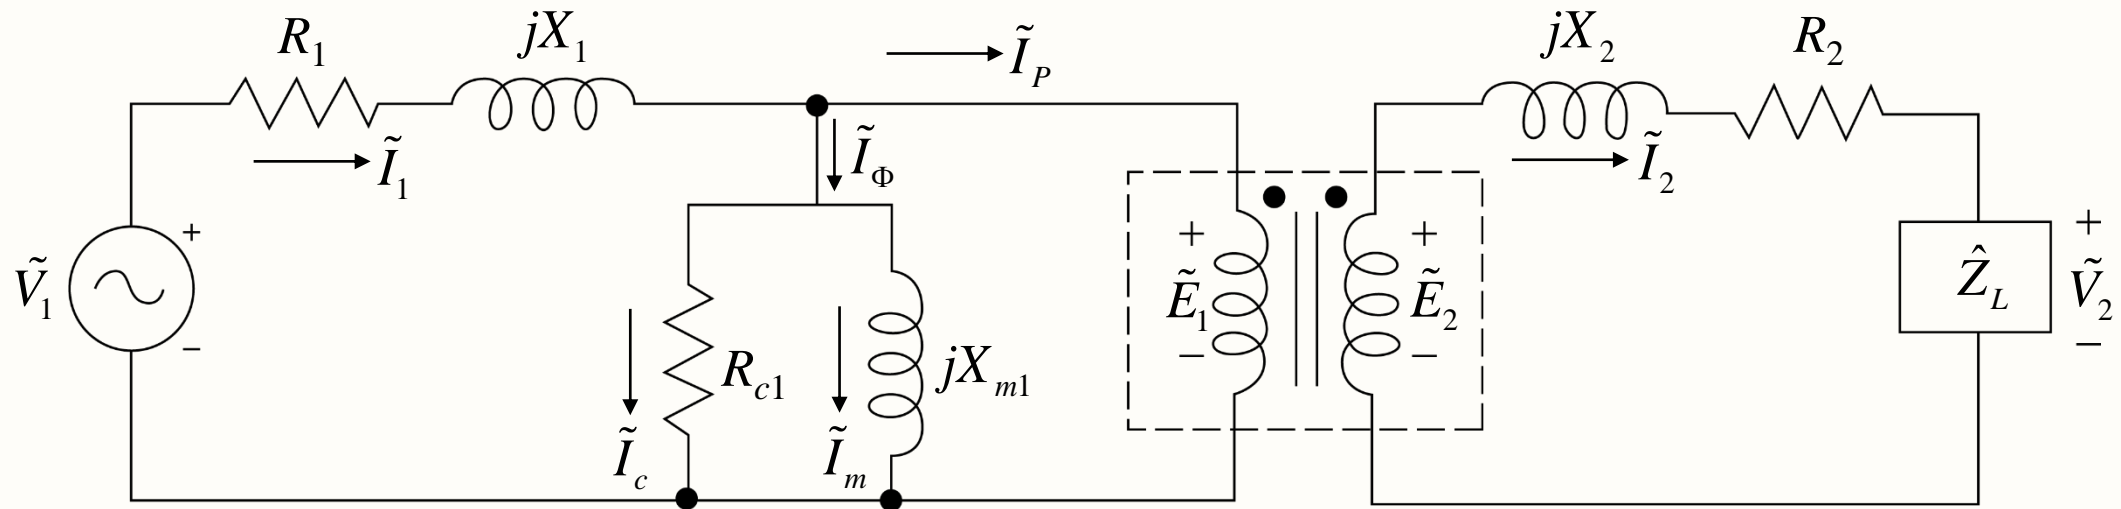

Fig. 15. Equivalent circuit of a practical transformer.
- ❖ The magnetic core is not commonly shown in the equivalent circuit, but indicated symbolically as shown Fig. 15.